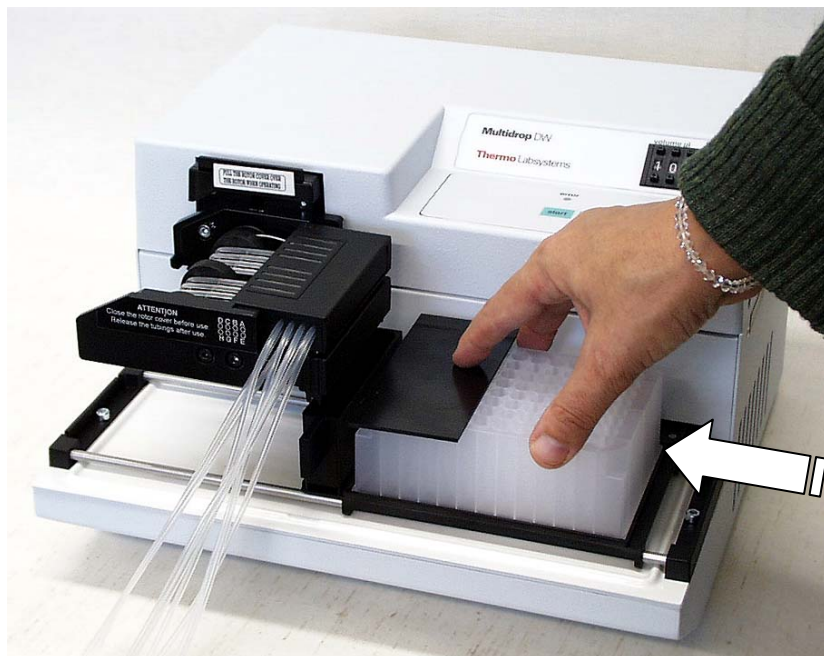

Fig. 6.18 Moving the deep-well plate and adjustment plate under the dispensing cassette
4. After that manually move the deep-well plate and the adjustment plate carefully under the pump rotor (*Fig. 6.18*). Do not move the plate under the dispensing cassette against the tips with force. The tips might get bent or deteriorated.